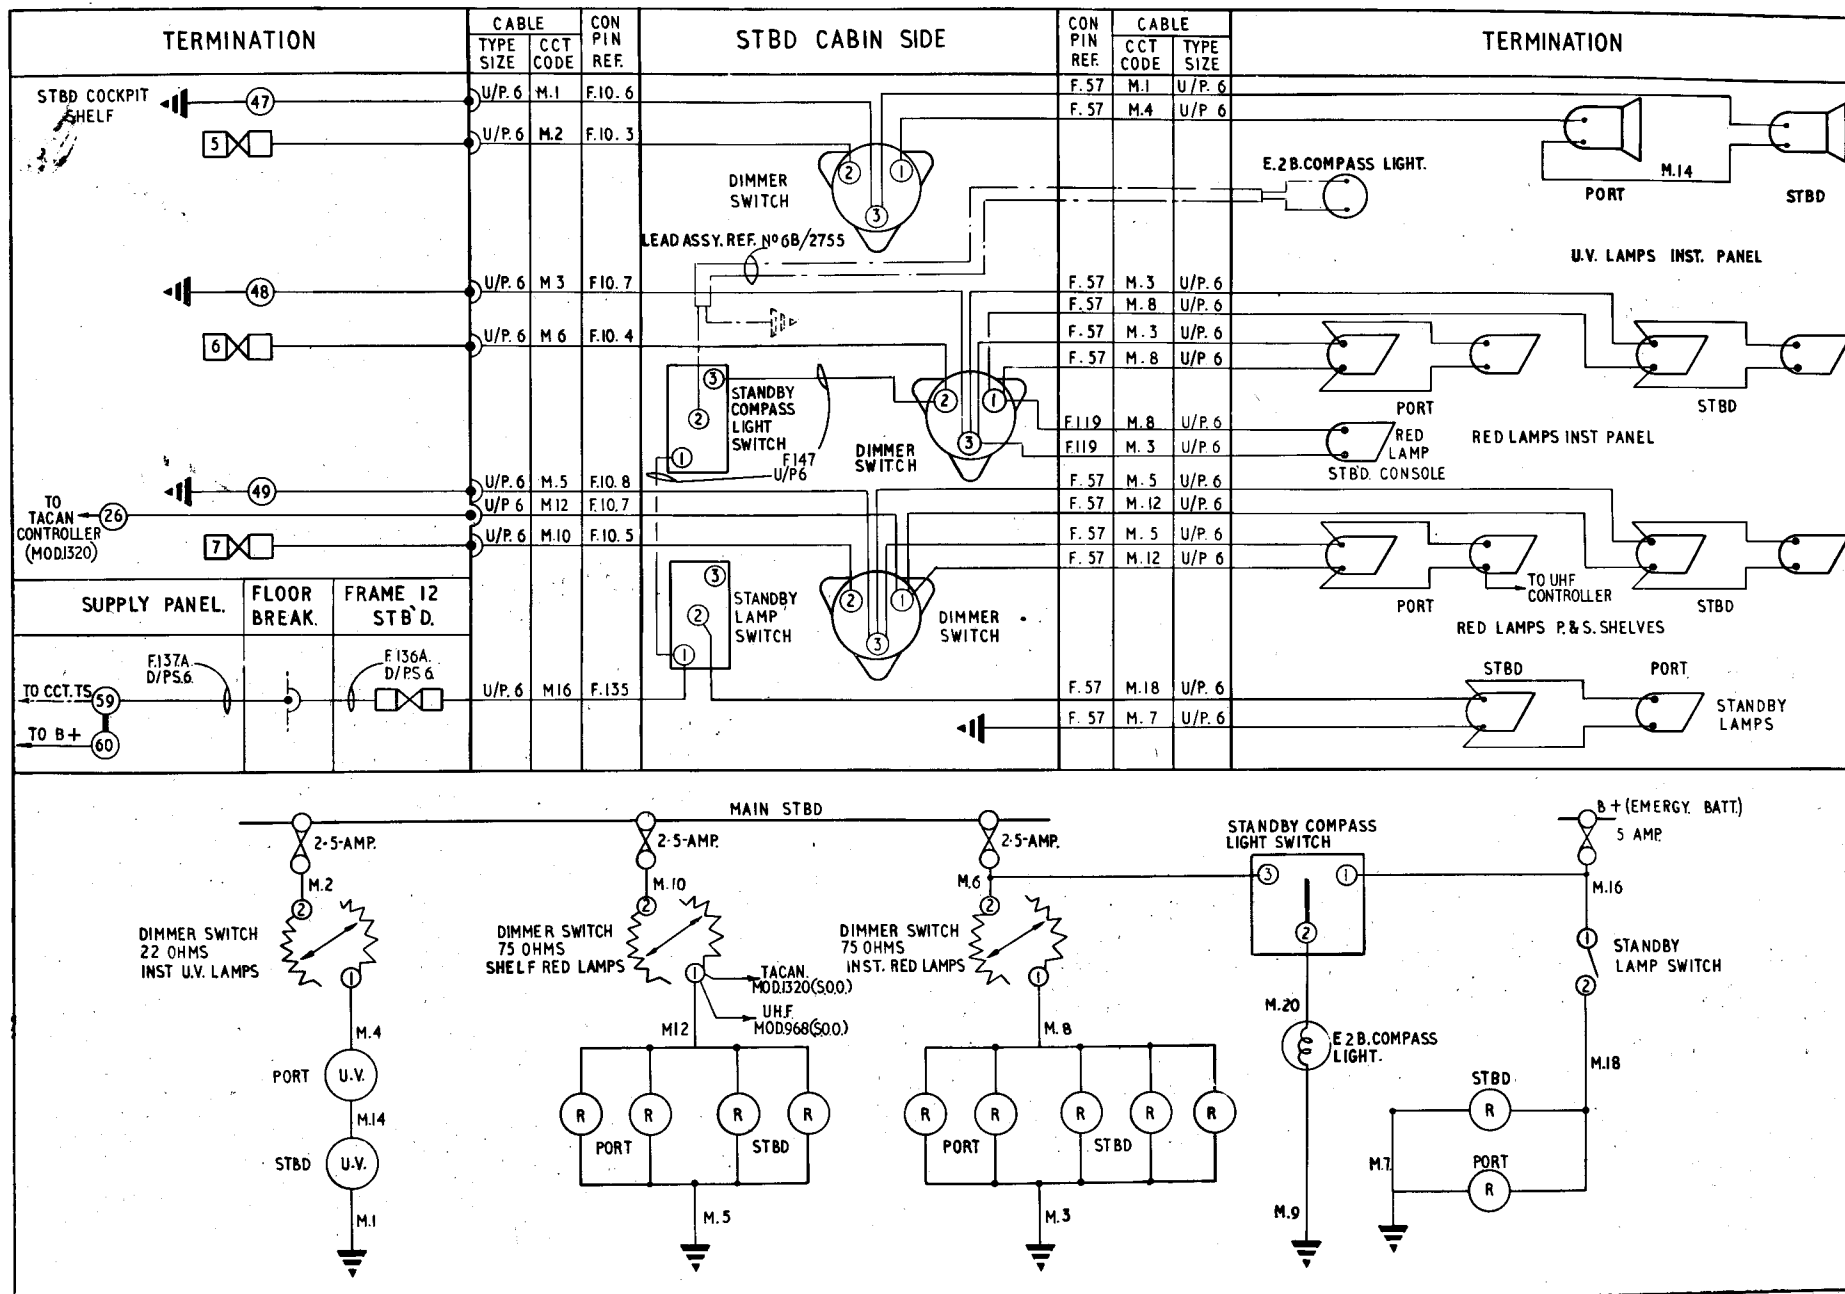

Fig. 1 Cabin lighting
2. The cabin lighting installation consists of five separately controlled circuits supplying lamps to illuminate the instrument panels, cabin shelves and the standby compass. The following paragraphs describe each of these circuits in turn. Routeing and theoretical diagrams of the circuits are given in fig. 1.
8. The operation of the circuits should be obvious once reference is made to the theoretical diagrams, given in fig. 1 of this group.